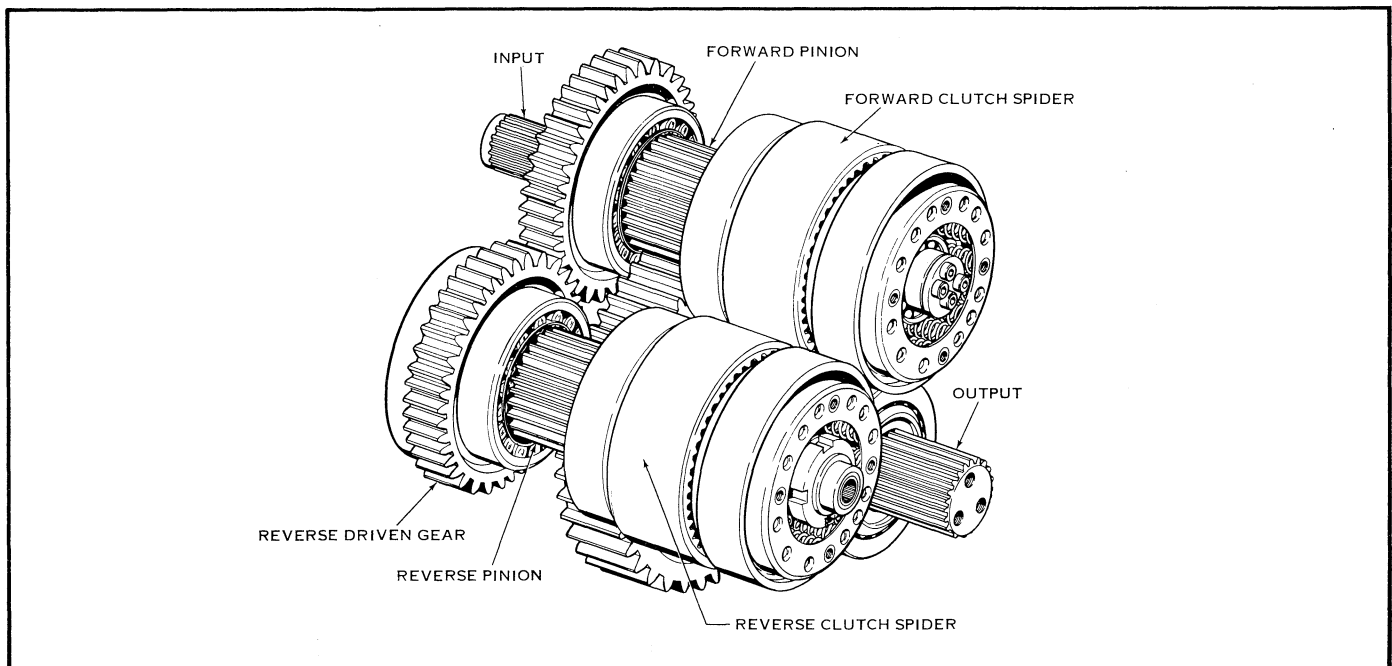

Figure 6. MG-509 Marine Gear Power Flow – Schematic View.
B. Direction of Drive (Fig. 6). The forward clutch shaft and the reverse driving gear always rotate in engine direction. The reverse clutch shaft and the reverse driven gear always rotate in anti-engine direction. When the forward clutch is engaged, the output shaft gear will rotate in an anti-engine direction due to the gear meshing with the forward pinion. When the reverse clutch is engaged, the